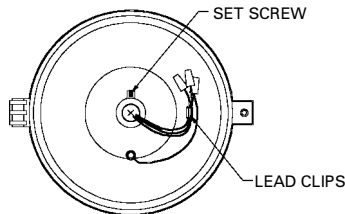

Figure 8
Cut incoming supply conductors to six (6) inches inside cover. Route conductors through lead clip provided and make electrical connections, including ground as shown on wiring label (See Figure 8).